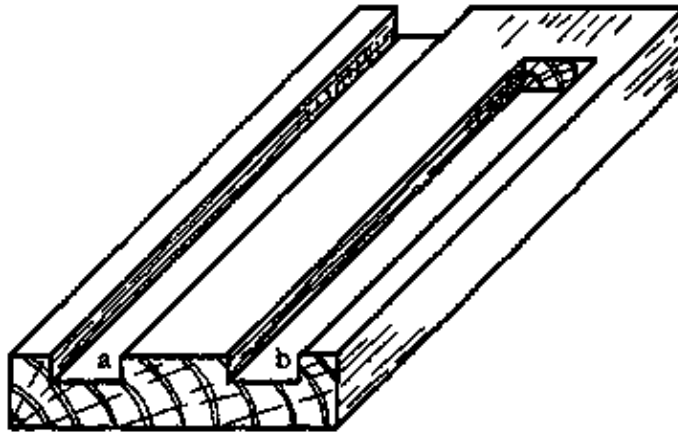

Fig. 3
– GROOVE: This is a recess cut along the grain. A “through” groove runs the whole length of the piece (Fig. 3, a); while a “stopped” groove is stopped at one or both ends (Fig. 3, b).